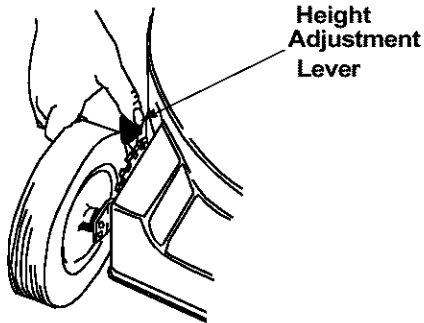

Figure 17
- Simply depress the lever towards wheel and move it to any of the nine positions for the desired cutting height. See Figure 17. All four levers on the four wheels must be placed in the same relative position for uniform cutting height.